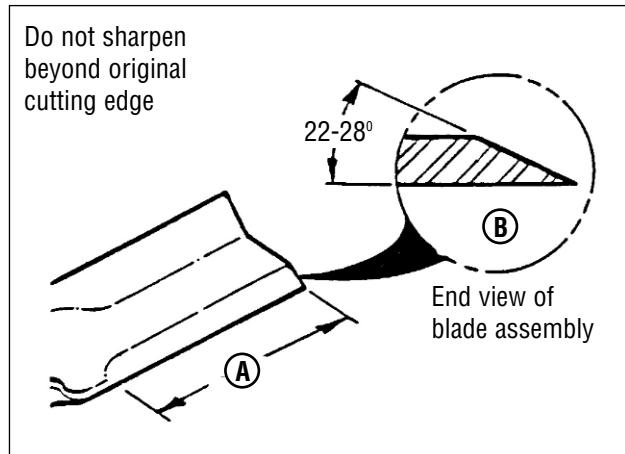

Figure 17: Sharpening the mower blade
4. Sharpen the blade on a grinding wheel at an angle of 22 to 28 degrees (**B**, **Figure 17**). DO NOT sharpen the blade beyond the original cutting edge (**A**).